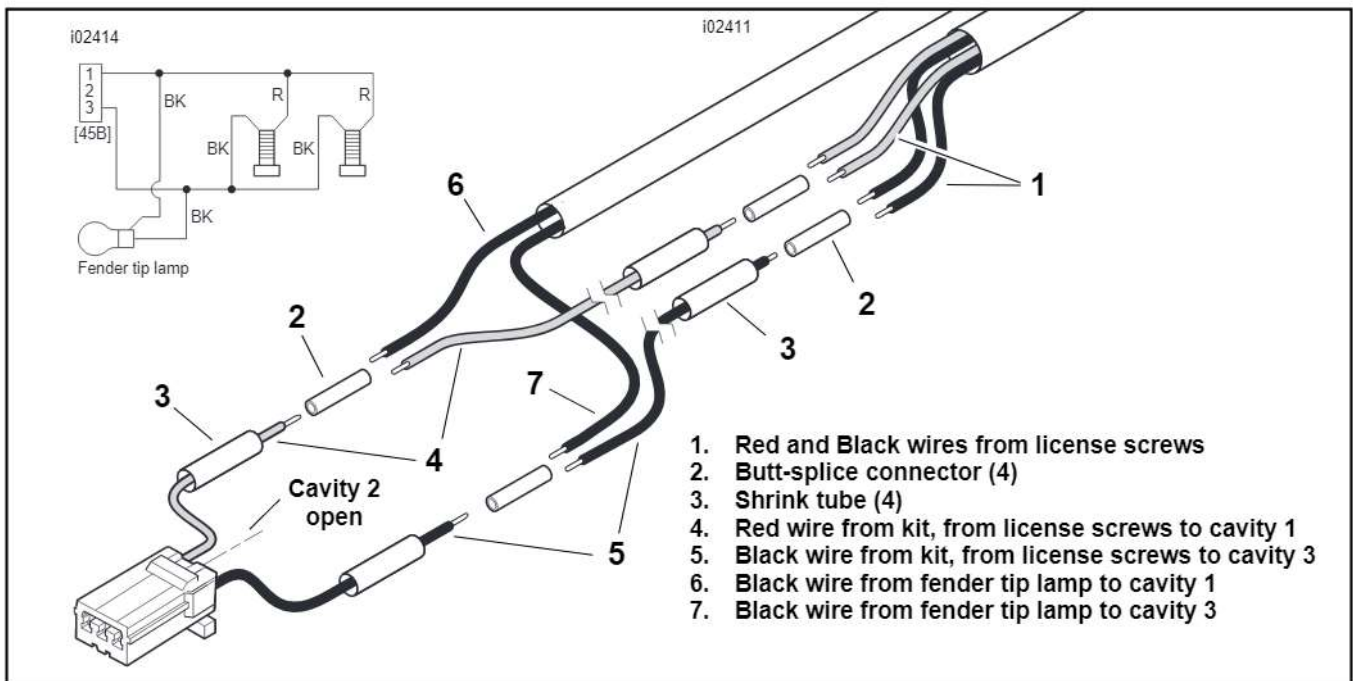

Figure 15. Wiring the Socket Housing (FLSTC Models)
16. Obtain the black wire (7) and red wire (8) assemblies from the kit.
Insert the terminal on the end of the red wire into the empty cavity (marked "1") in the socket housing (11) from the kit as shown in Figure 15. Refer to AMP MULTILOCK ELECTRICAL CONNECTORS in the Service Manual.